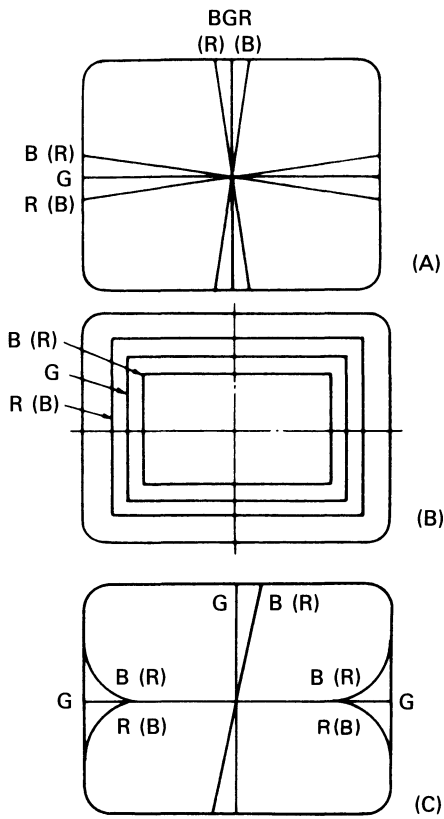

Fig. 10
- 1) Observe the vertical lines at the center of screen. If the red and blue vertical lines are shifted crossing with green vertical lines as shown in Fig. 10 (A), converge then by swinging yoke vertically.
Observe the horizontal lines at the center of screen. If the red and blue horizontal lines are shifted crossing with green vertical lines as shown in Fig. 10(A), converge then by adjusting BIAS magnet on the PCB-MID.
- 2) Observe the vertical lines at left and right centers of the screen as shown in Fig. 10 (B). If red or blue vertical lines are shifted against green vertical line, converge them by swinging yoke horizontally. Then confirm that the horizontal line both at top and bottom centers of the screen are also converged.
- 3) The shift of beams as shown in Fig. 10 (C) can be converged by rotating the entire deflection yoke. The rotation of the yoke should be made in consideration of a point where raster rotation and convergence compromise.